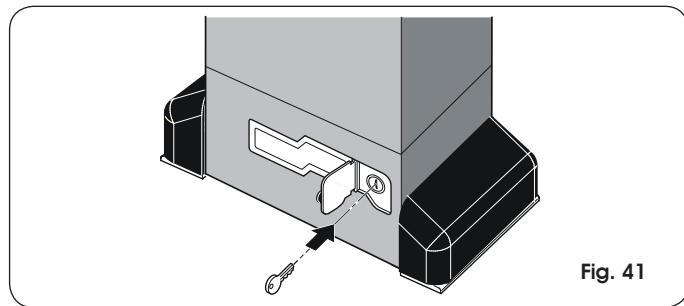
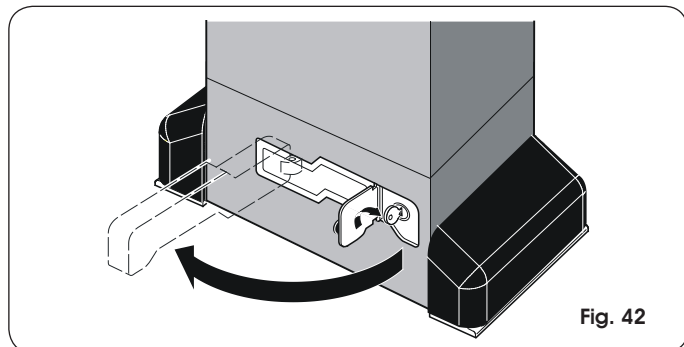

Fig. 41
Fig. 42
The 844 operator has a limit sensor switch which, by detecting the transit of a reference applied to the rack, commands the motor to stop. The device can be magnetic (Fig. 41) or inductive (Fig. 42).
2. Open the protection door and insert the supplied key in the lock (Fig. 41).
3. Turn the key clockwise and pull the release lever as shown in Fig. 42.